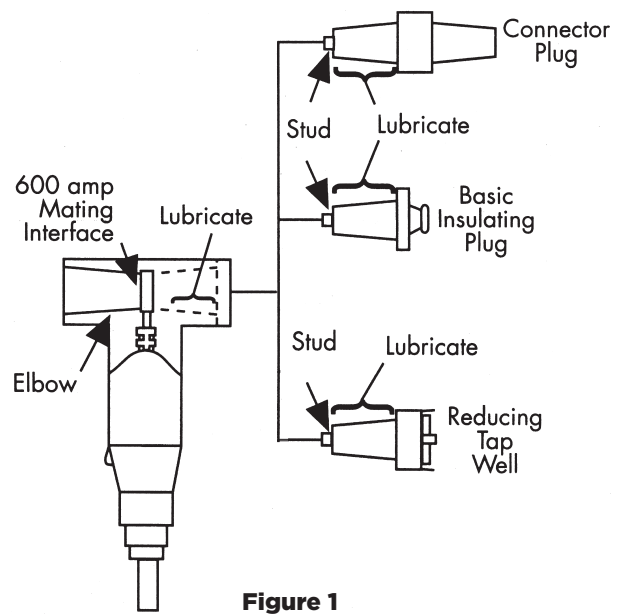

Figure 1
- Hand tighten the loose stud into the plug or well if the mating interface is not equipped with one. (Figure 1)